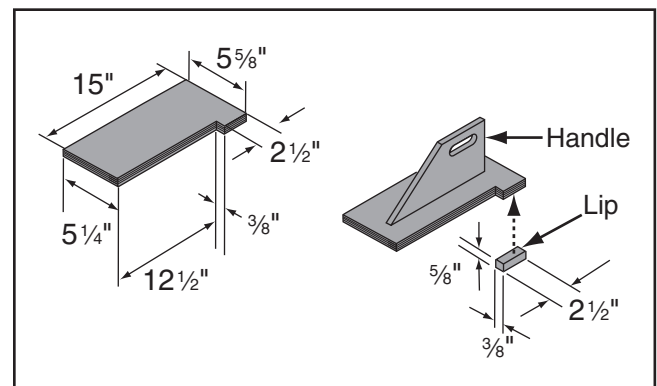

Figure 77. Push block dimensions and construction.
3. Using the $\frac{3}{4}$ " material you used in the previous steps, cut out pieces for the push block per the dimensions shown in **Figure 77**; for the handle, cut a piece 10" long by 5"–9" high and shape it as desired to fit your hand.